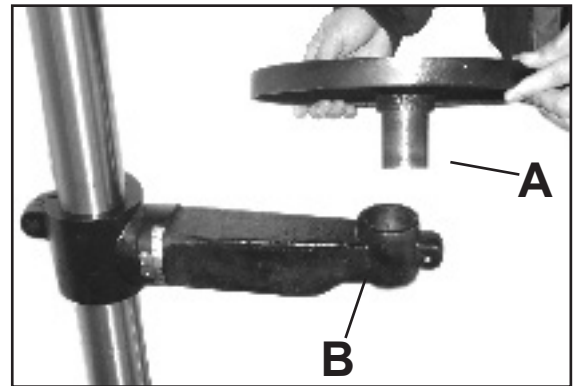

Figure 16
1. Insert the table post (A-Fig. 16) into the table support bracket (B-Fig. 16) as shown.
3. Check the column & table support arm to make sure the scale is on zero position (A-Fig. 16). If necessary, loosen the hex bolt (B-Fig. 16) and also adjust the hex socket screw (C-Fig. 16) to level the table 90 degree to the spindle.